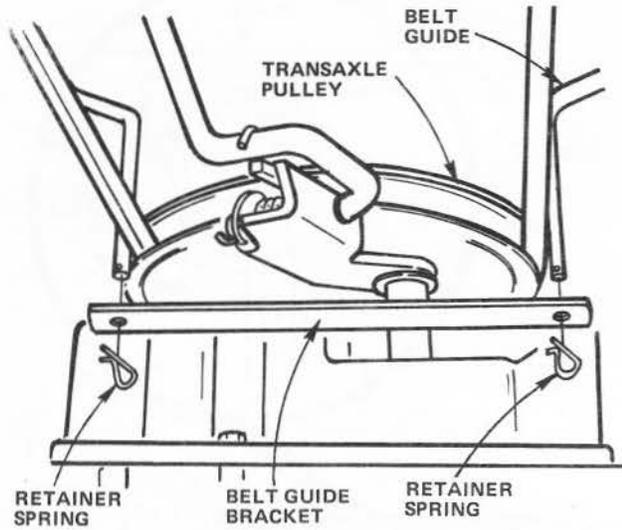

FIGURE 32
- b. Remove two Retainer Springs from Belt Guide Bracket below Transaxle Pulley. Remove Bracket (Fig. 32).
- c. Swing Belt Guides away from Belt, toward rear of tractor (Fig. 32).